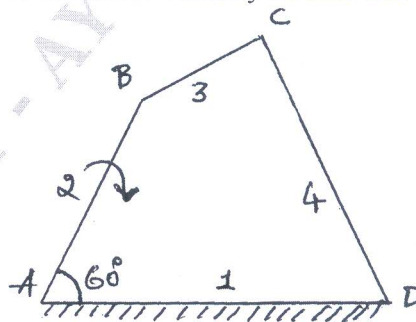

Fig Q4
- 4 A pin jointed four bar mechanism ABCD is shown in Fig.Q4. Link  $AB = 150 \text{ mm}$ ,  $BC = 180 \text{ mm}$ ,  $CD = 180 \text{ mm}$  and the fixed link  $AD = 300 \text{ mm}$ . Link AB makes  $60^\circ$  with the link AD, and rotates uniformly at 100 rpm. Locate all the instantaneous centres and find the angular velocity of link BC and the linear velocity of link CD.